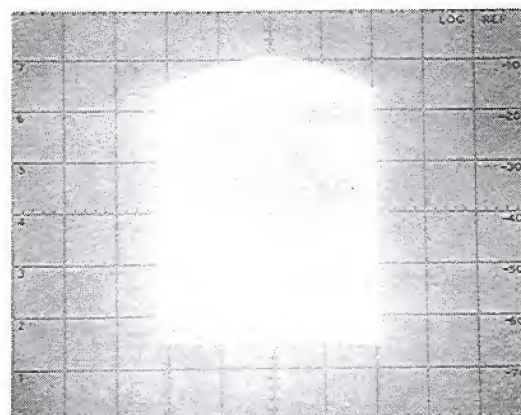

Figure 5-6. First Converter Passband
16. The passband should be similar to that displayed in Figure 5-6. If not, set TRACK ADJ to center of passband and repeat steps 11 through 15.